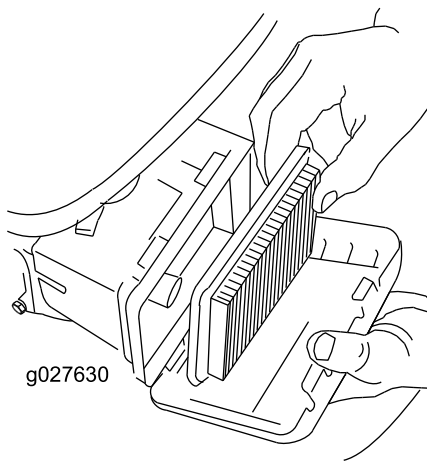

Figure 34
3. Remove the paper air filter (Figure 34).